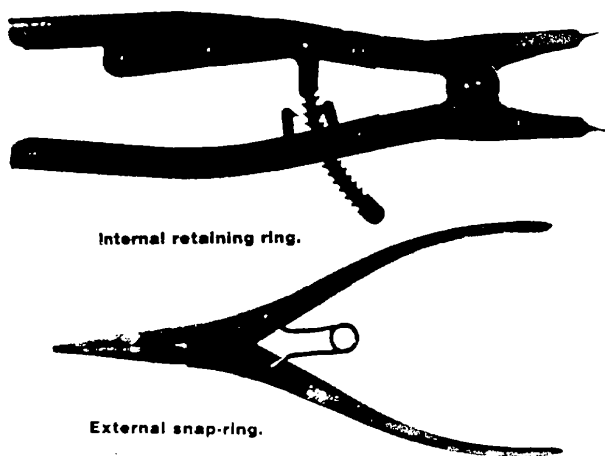

Figure 4-40. Pliers, Retaining Ring
(3) *Pliers, Retaining Ring*. The retaining ring pliers (snap ring) are used to remove internal and external retaining rings. It is shown in figure 4-40.